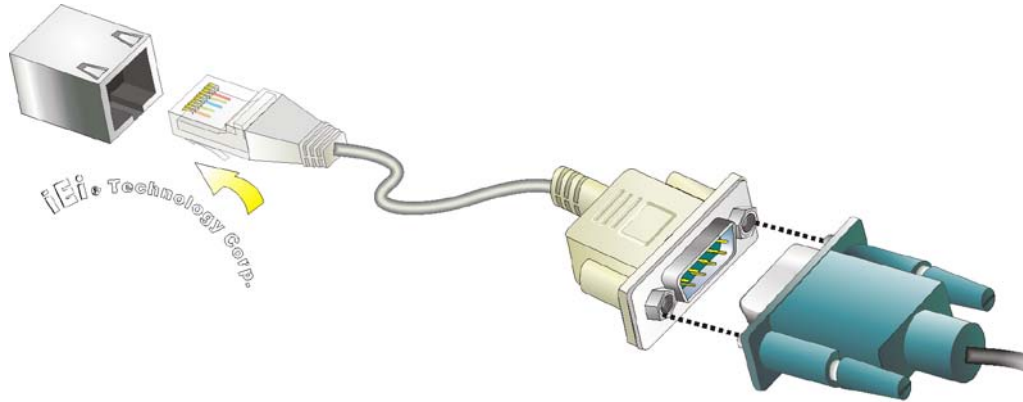

Figure 3-20: RJ-45 RS-422/485 Serial Device Connection
Step 2: Insert the RJ-45 connector. Insert the RJ-45 connector on the RJ-45 to DB-9 COM port cable to one of the RJ-45 RS-422/485 connectors on the TANK-820. See **Figure 3-20**.